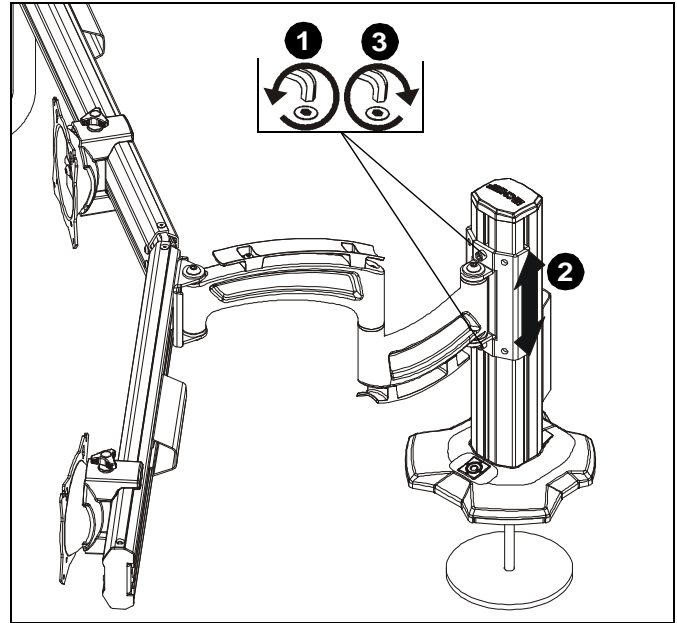

Figure 16
1. Loosen socket head cap screws holding column arm to column. (See Figure 16)
2. Adjust column arm to desired height. (See Figure 16)
3. Tighten socket head cap screws to lock column arm's position. (See Figure 16)